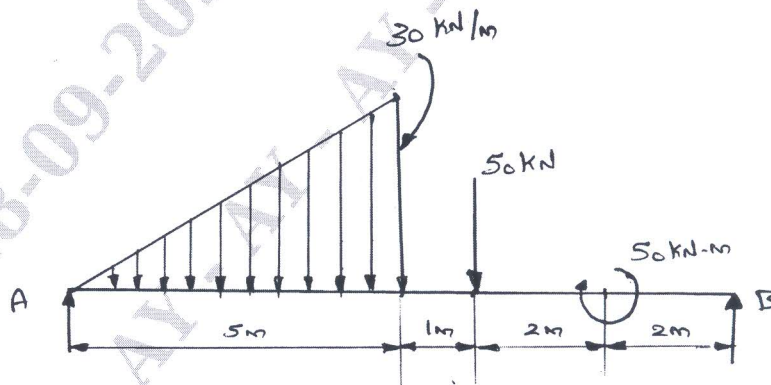

Fig.Q6
- 6 Draw SFD and BMD for a simply supported beam shown in Fig.Q6.